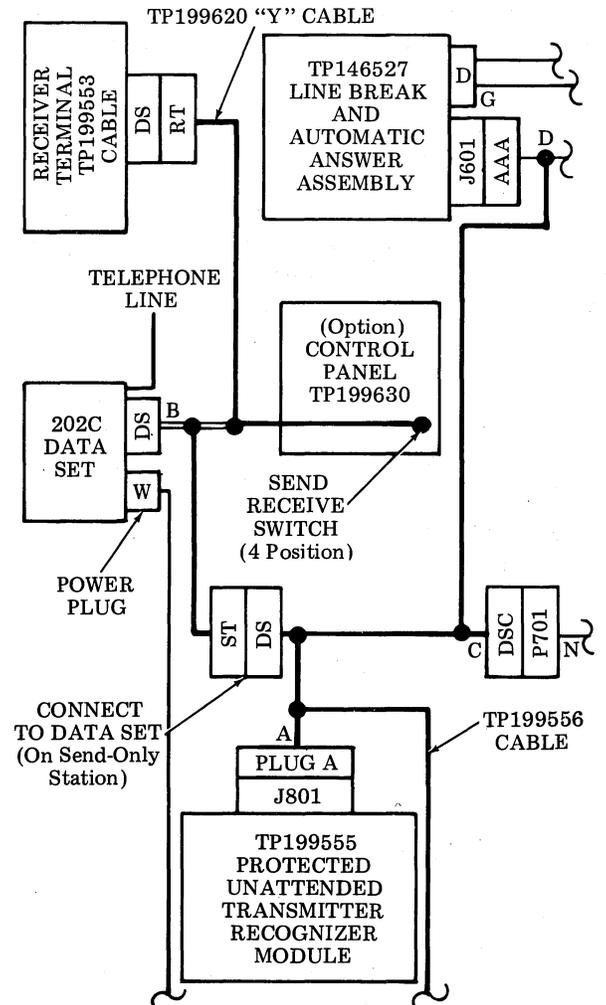

Figure 7 - Installation With Use of Recognizer and Identifier Modules
3.18 Disconnect connector DS of TP199556 cable from data set. Secure connector DS, of the TP199620 cable, to data set (Figure 7).
cable (Figure 7) to connector DS of TP199553 cable in receiver terminal. Now follow instructions in 3.15.